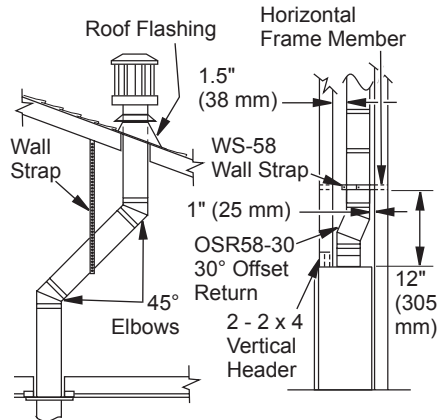

Figure 26 - 45° and 30° Offset with Wall Strap
- Determine the route your vertical venting will take. If ceiling joists, roof rafters or other framing will obstruct the venting system, consider an offset (see Figure 26) to avoid cutting load bearing members. *Note: Pay special attention to these installation instructions for required clearances (air space) to combustibles when passing through ceilings, walls, roofs, enclosures, attic rafters, etc. Do not pack air spaces with insulation. Also note maximum vertical rise of the venting system and any maximum horizontal offset limitations.*
Note: If an offset is needed to avoid obstructions, you must support vent pipe every 3 feet. Use wall straps for this purpose (see Figure 26, page 17). Whenever possible, use 45° elbows instead of 90° elbows. The 45° elbow offers less restriction to the flow of flue gases and intake air.
5. Place flashing over pipe section(s) extending through roof. Secure base of flashing to roof and framing with roofing nails. Be sure roofing material overlaps top edge of flashing as shown in Figure 26, page 17. There must be a 1" clearance from vent pipe to combustible materials.